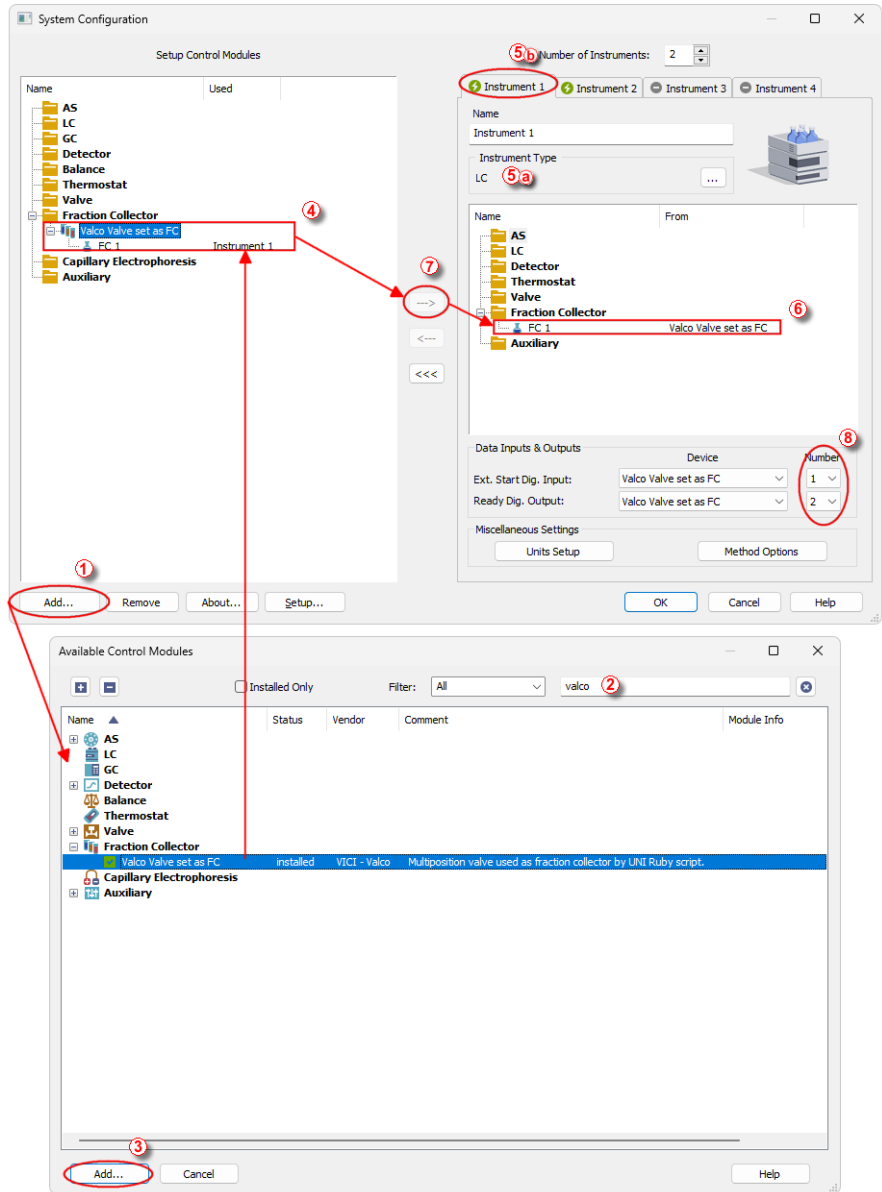

Fig. 3: How to Add FC by Vici Valco
- Press the **Add** button (① on Fig. 3 on pg. 4.) to invoke the *Available Control Modules* dialog.
- You can specify the search filter ② to simplify the finding of the driver.
- Select the correct item and press the **Add** (③ on Fig. 3 on pg. 4.) button. Each device with already created UNI profile should have its own item named accordingly in the *Available Control Modules* dialog.